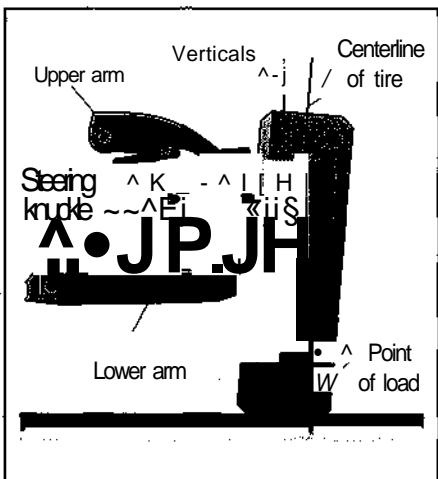

Figure 19-5:
- **Camber** is the inward or outward tilt of the top of the wheels when viewed from the front/rear of the car — how "bow-legged" or "knock-kneed" they are (see Figure 19-5). If the wheels don't hang properly, your tires wear out more quickly, and your car is harder to handle.